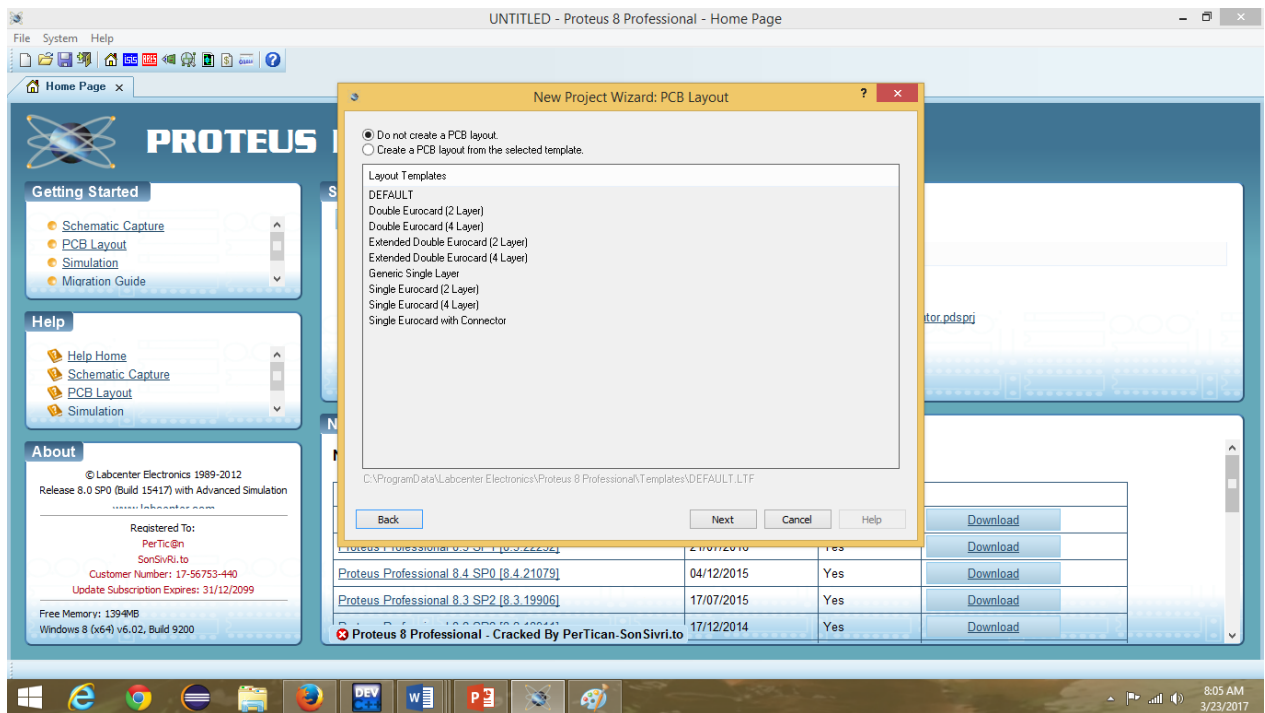

Figure 4
6. Select next then Select a schematic template out of many Templates available as shown in figure 4.